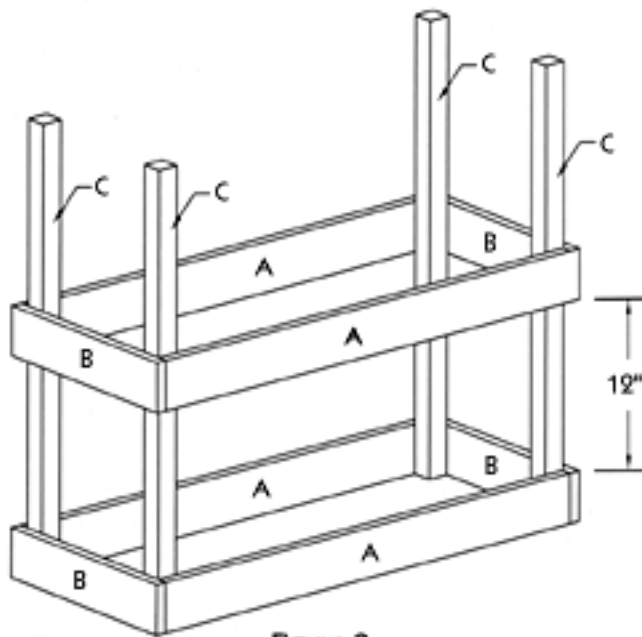

Figure 3
Place the assembled rectangle "Bottom" over the four Legs (C), 12" below the top, as shown in figure 3. Apply glue to the meeting surfaces, and screw through the Short and Long Sides (A and B) into both sides of each Leg (C), using two 2" wood screws on each joint.